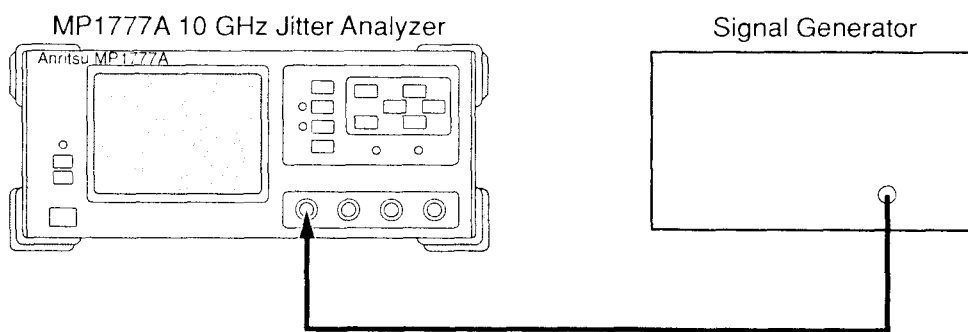

Fig. 6-2 External Modulation Input Sensitivity Performance Test
- (1) Connect the MP1777A 10 GHz Jitter Analyzer and the Signal Generator as shown in Fig. 6-2.
- (2) Set the Bit Rate to 9953M on the "Setup: Interface" screen.
- (3) Set the Tx Jitter = ON and the Range = 0.5 UI on the "Test menu: Manual Jitter" screen.
- (4) From the Signal Generator, enter the sine wave signals with frequency 100 kHz and level 0.5 VPP to Ext. Mod. Input of the MP1777A.
- (5) Check that the Tx monitor on the "Result/Jitter" screen satisfies the standard in Table 6-2.
- (6) Check the other Bit Rates and Ranges by referring to Table 6-2 , as in the same manner.